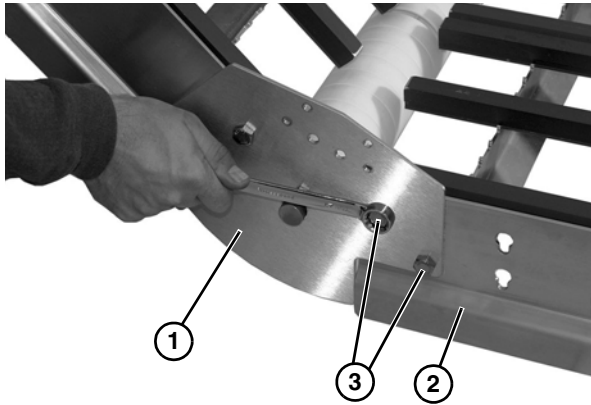
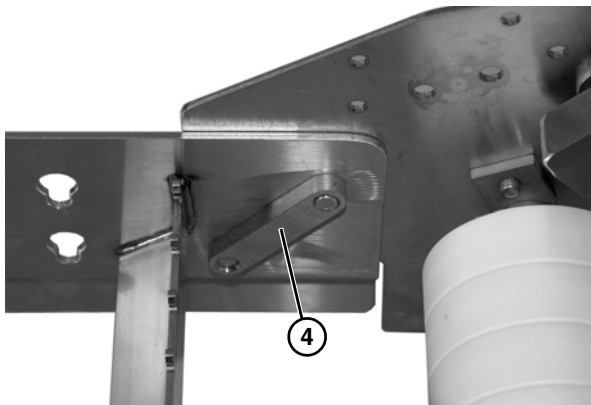

Figure 6
Figure 7
- Attach lower knuckle (**Figure 6, item 1**) to frame (**Figure 6, item 2**) by using two cap screws (**Figure 6, item 3**) and plate (**Figure 7, item 4**) on each side of lower knuckle assembly.